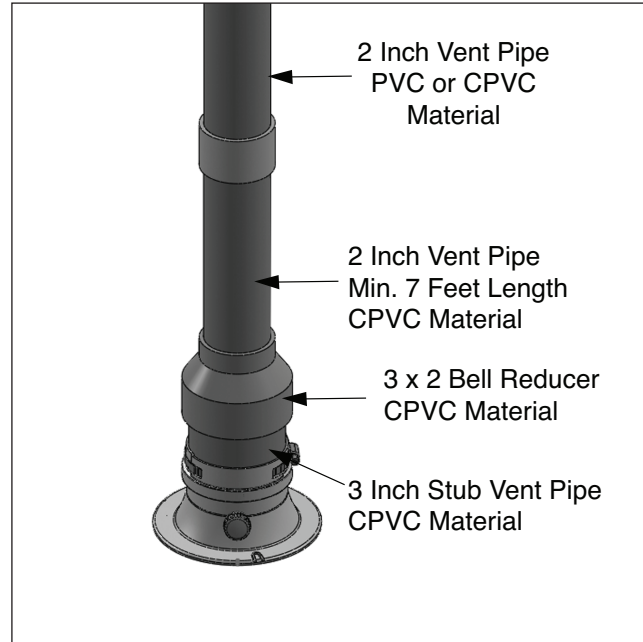

Fig. 20 - 2 in. CPVC/PVC Venting System Vertical
3. Use a 3 in. x 2 in. bell reducer to make the transition to 2 in. CPVC/PVC vent, see *Figs. 20 and 21*.